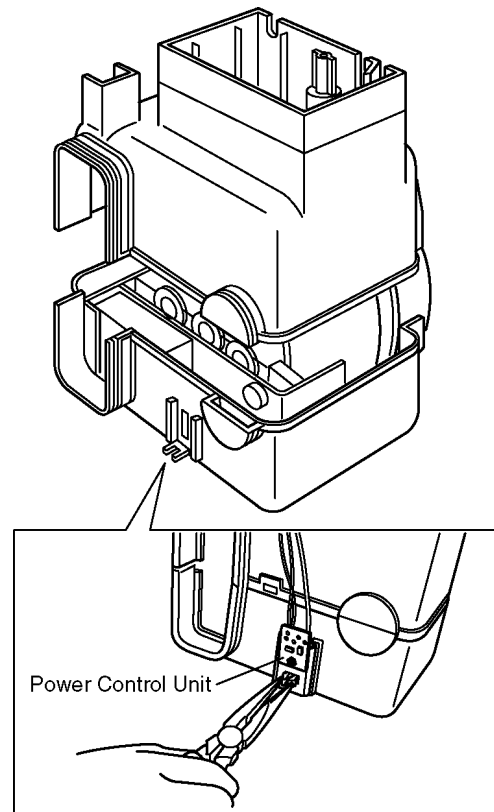

Fig.15
2. Separate the power control unit from the motor case. (Fig.15)